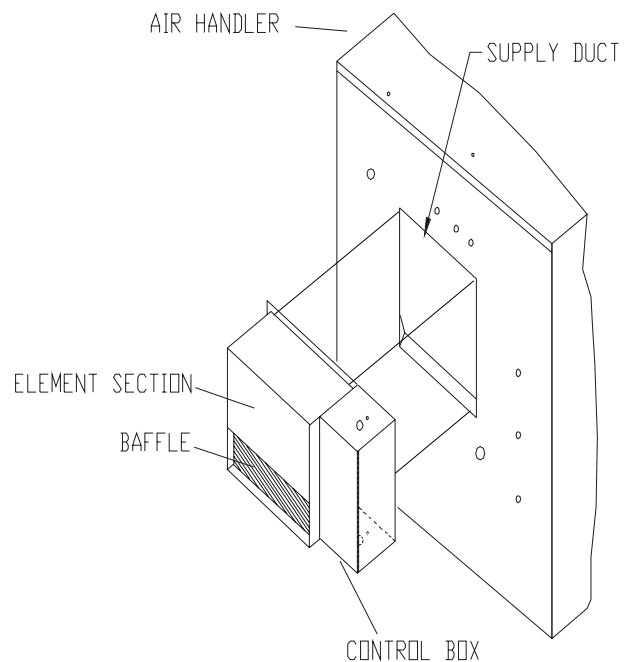

Fig. 1
3. Install heater assembly directly over the supply duct of the air handler. Position the heater control box on the right hand side of the air handler (see fig. 1).
5. Secure heater flanges with sheetmetal screws to the air handler unit (see fig.1).